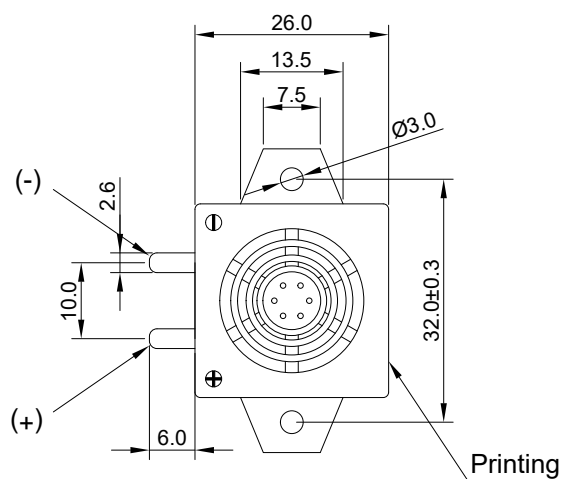

Figure 3. HCM2606BX Mechanical Layout
4.3.1. Layout and Dimension	: See Section 6, Figure 3